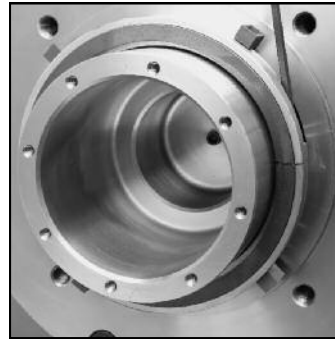

Figure 4
4. Place the mating ring adapter assembly halves around the shaft with the mating ring pointing away from the equipment's seal chamber. Bring the halves together to begin engagement of the alignment pins. Evenly tighten the cap screws until approximately a 1/32"/0.8mm gap exists at each split joint. Figure 4.